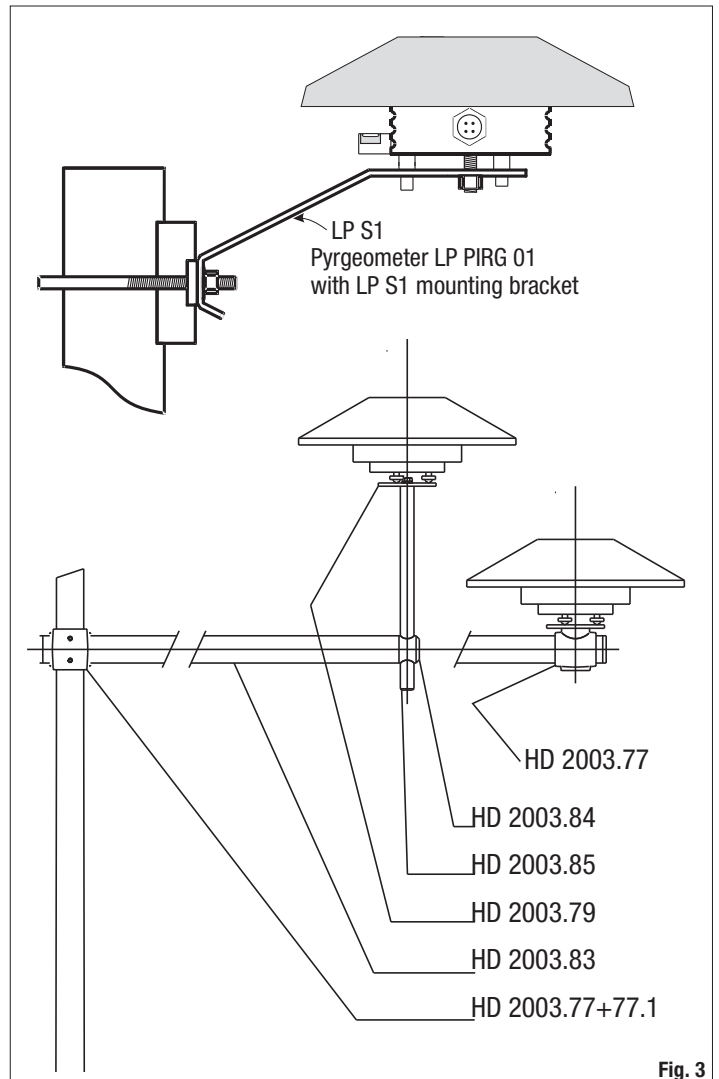

Fig. 3
- The support LP S1 (figure 3), supplied upon request as an accessory, allows an easy mounting of the pyrometer support pole. The maximum diameter of the pole to which the bracket can be secured is 50 mm. To secure the pyrometer to the bracket, remove the screen by unscrewing the three screws, fix the pyrometer; once the installation is complete, fix the white screen back.